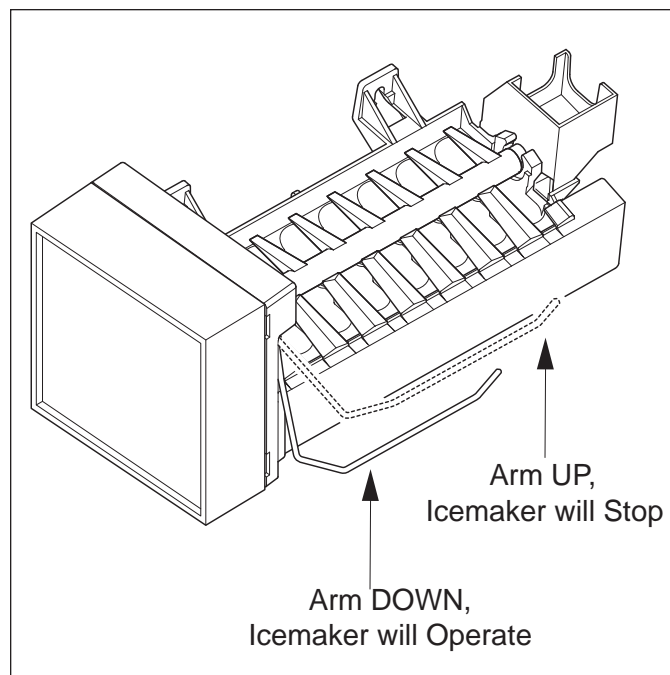

Figure 6-12. Stopping Icemaker
2. Position the ice-level/shut-off arm in the up/OFF position (See Figure 6-12).